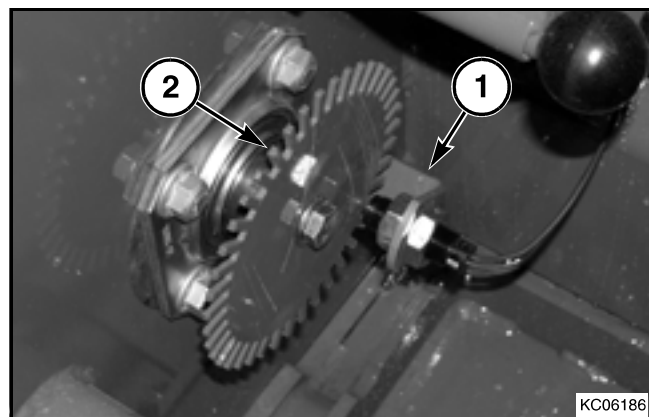

FIG. 116
FIG. 116: Install the sensor bracket (1) and sensor sprocket (2) onto the right-hand side of the rotor. Make sure that the sensor is adjusted correctly. See Electrical Sensors in the Electrical section.